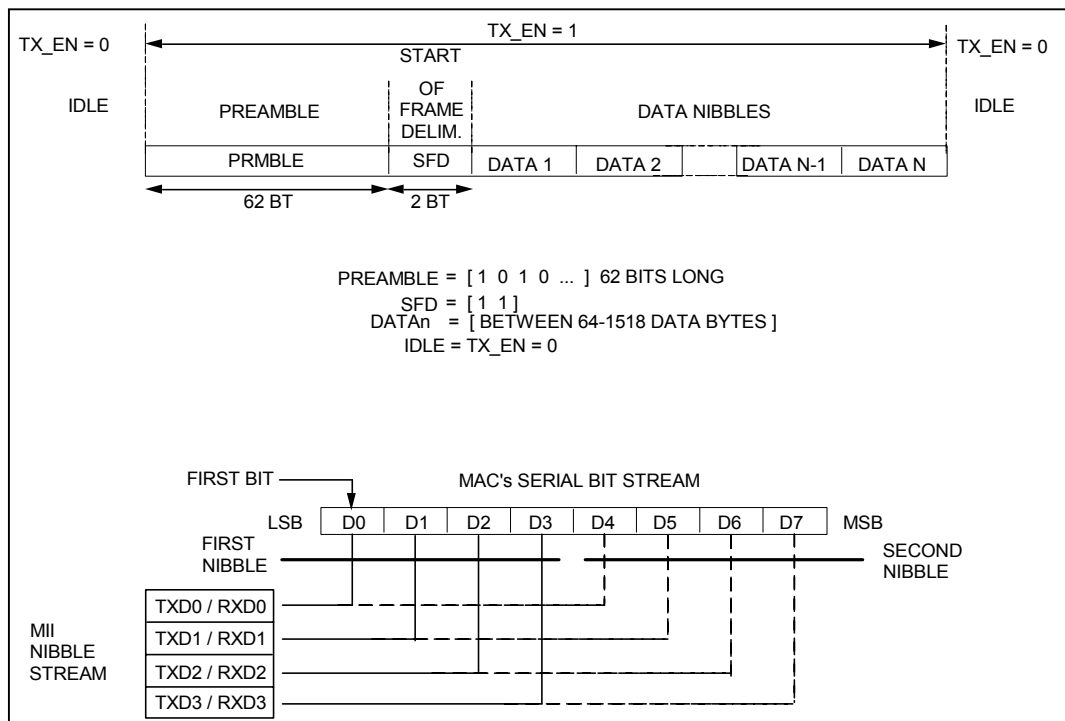

Figure 7.2 - MII Frame Format & MII Nibble Order
The MII is a nibble wide packet data interface defined in IEEE 802.3. The LAN91C111 meets all the MII requirements outlined in IEEE 802.3 and shown in Figure 7.2.
Data recovery is performed by latching in data from the TP receiver with the recovered clock extracted by the PLL. The data is then converted from a single bit stream into nibble wide data word according to the format shown in Figure 7.2.
The clock recovery process for 10Mbps mode is identical to the 100Mbps mode except, (1) the recovered clock frequency is 2.5 MHz nibble clock, (2) the PLL is switched from TX25 to the TP input when the squelch indicates valid data, (3) The PLL takes up to 12 transitions (bit times) to lock onto the preamble, so some of the preamble data symbols are lost, but the dock recovery block recovers enough preamble symbols to pass at least 6 nibbles of preamble to the receive controller interface as shown in Figure 7.2.